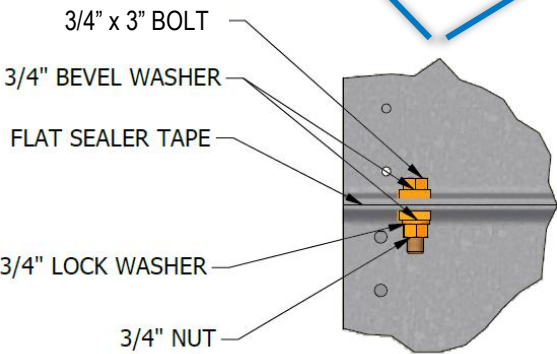

*Figure 8. Perimeter Flange*
3. Wipe moisture and dirt from the C-shaped flange that runs along the full perimeter of the unit as shown in **Figure 8**.
4. Apply flat butyl sealer tape (**BAC part #554000**) around the entire perimeter of the lower section as shown in **Figure 8**.